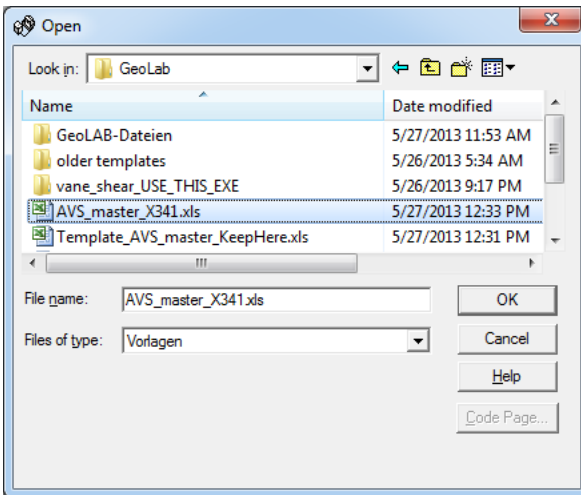

Figure 3. Excel Templates.
5. Select the Excel template (e.g., AVS_master_XXXX.xls) (Figure 3). The PP technician will select and save a master file for each particular expedition.